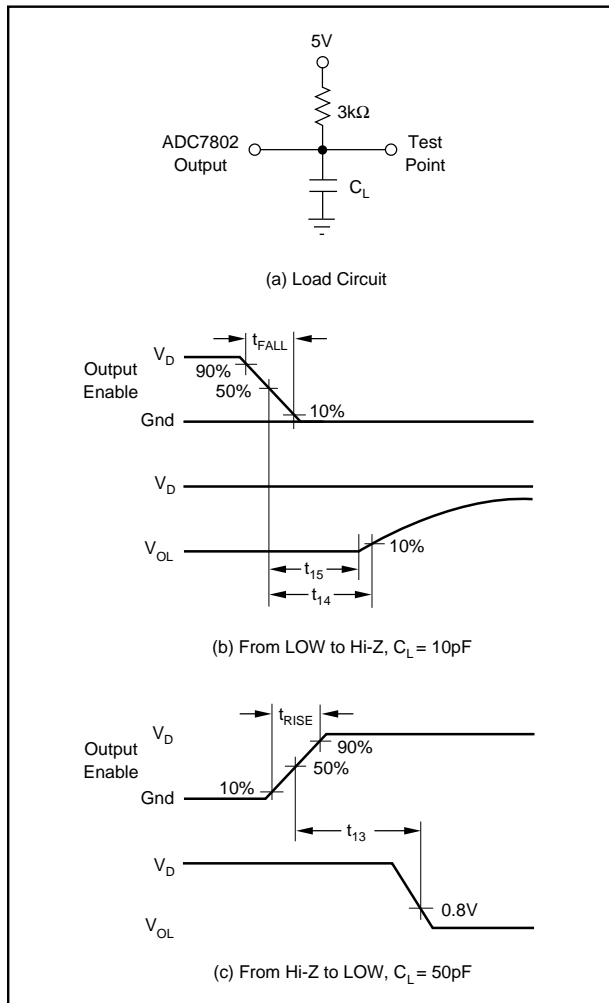

FIGURE 7. Measuring Active LOW to/from Hi-Z State.
NOTES: (1) All input control signals are specified with $t_{\text{RISE}} = t_{\text{FALL}} = 20\text{ns}$ (10% to 90% of 5V) and timed from a voltage level of 1.6V. Data is timed from V_{IH} , V_{IL} , V_{OH} or V_{OL} . (2) The internal RD pulse is performed by a NOR wiring of $\overline{\text{CS}}$ and RD. The internal WR pulse is performed by a NOR wiring of $\overline{\text{CS}}$ and WR. (3) Figures 7 and 8 show the measurement circuits and pulse diagrams for testing transitions to and from Hi-Z states.